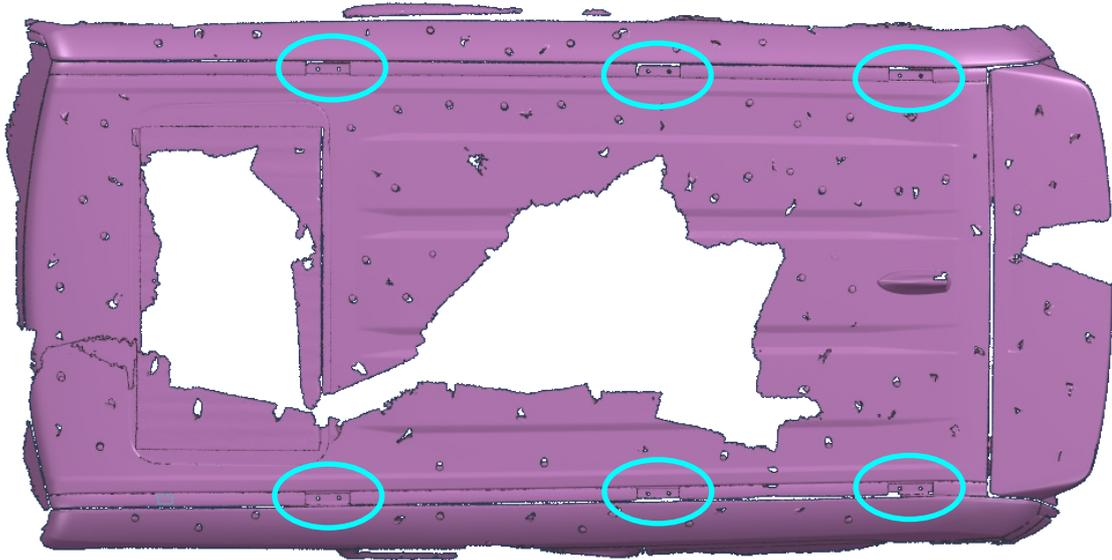

Fig. 5
5. For LC250 without factory roof rails remove covers and saddle brackets as shown in fig 5.